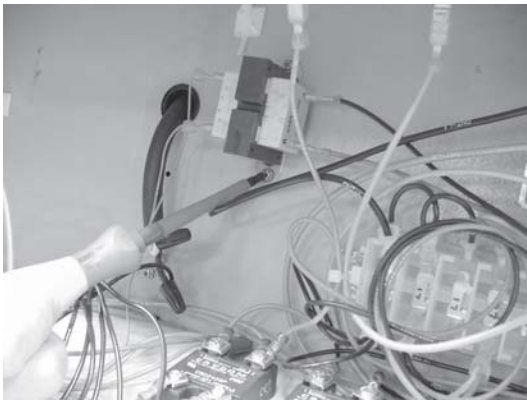

Figure 2
4. If transformer proves faulty, remove screws securing transformer to the unit and remove transformer. Figure 2.